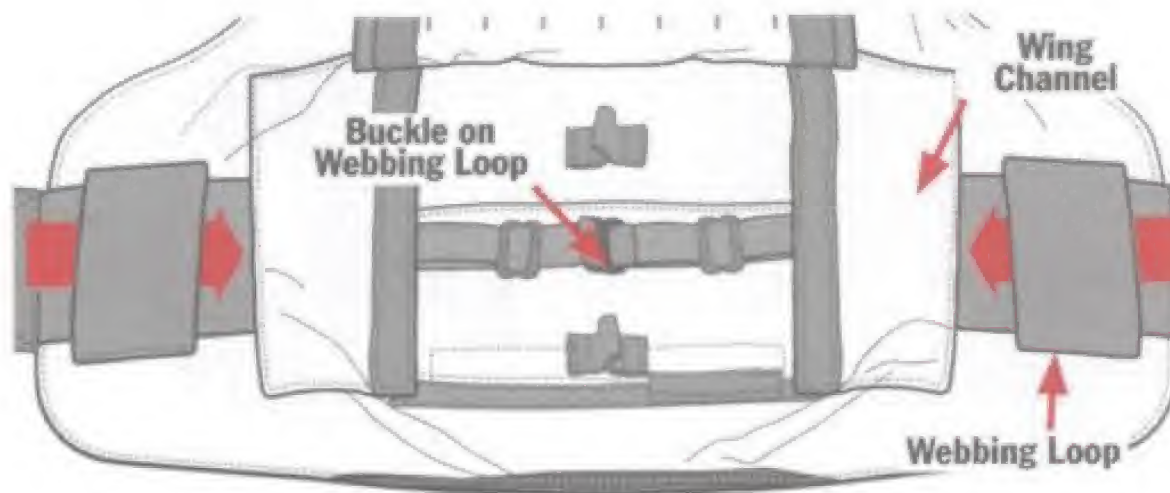

Fig. 26. Position of Elastic Waist Bands.
1. Lay Rear Carrier flat, mesh side down. Insert the Right- and Left-Side Elastic Waist Bands, 1-in. strap first, through webbing loop and through Wing Channels. Secure the buckle on the ends of the 1-in. strap onto the webbing loop as shown in Fig. 26.